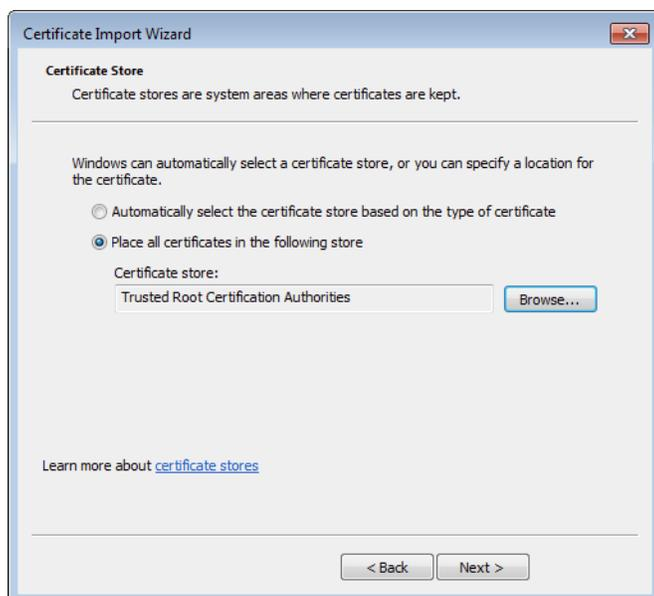

FIG. 64 Certificate Import Wizard - Certificate Store
6. Click **Install Certificate**. The Certificate Import Wizard opens. Click **Next** to access the Certificate Store page (FIG. 64).